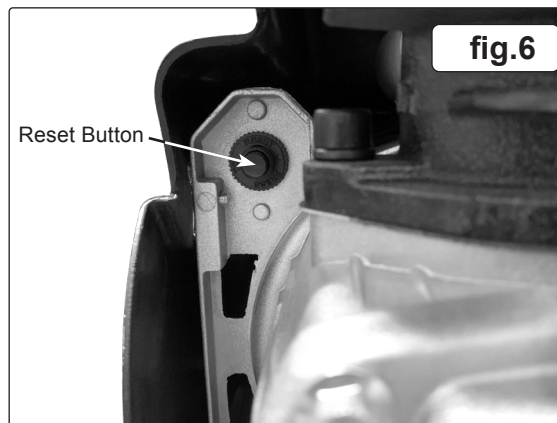

fig.6
- 5.15.1. **THERMAL CUT OUT:** If the unit overheats the thermal cut out will operate and shut the unit down. Allow the unit to cool down then press the reset button, located just inside the pump cover (fig.6).